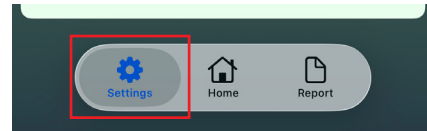

Figure 24
4. Select the gear icon in the lower left corner of the screen as shown in figure 24